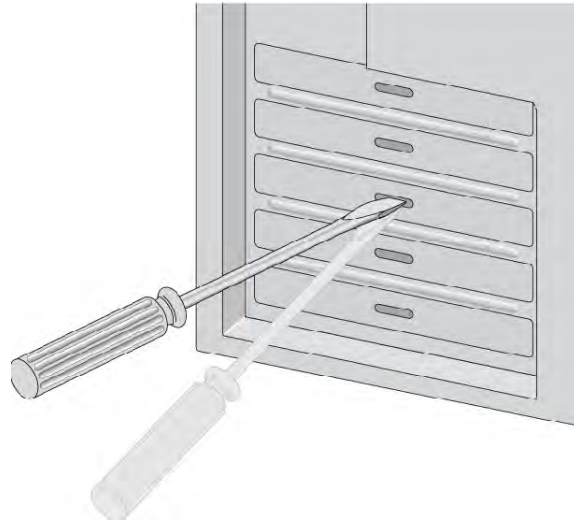

Figure 9. Removing the Faceplate From PCI Slot
7. Remove the faceplate that is associated with the card slot you have identified for installation. See Figure 9.